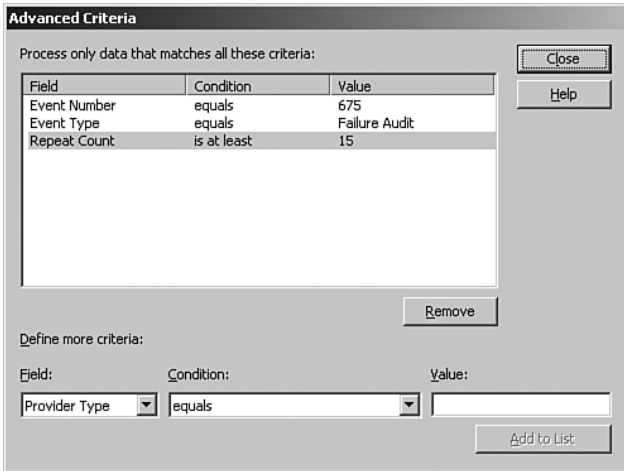

FIGURE 20.17 Repeat Count Advanced Criteria.
- On the Advanced Criteria screen, select Repeat Count from the Field list. Select “is at least” from the Condition list; then type 15 in the Value field. Click Add to List. Figure 20.17 shows an example of the Advanced Criteria screen. Close the Advanced Criteria screen. Click Next.